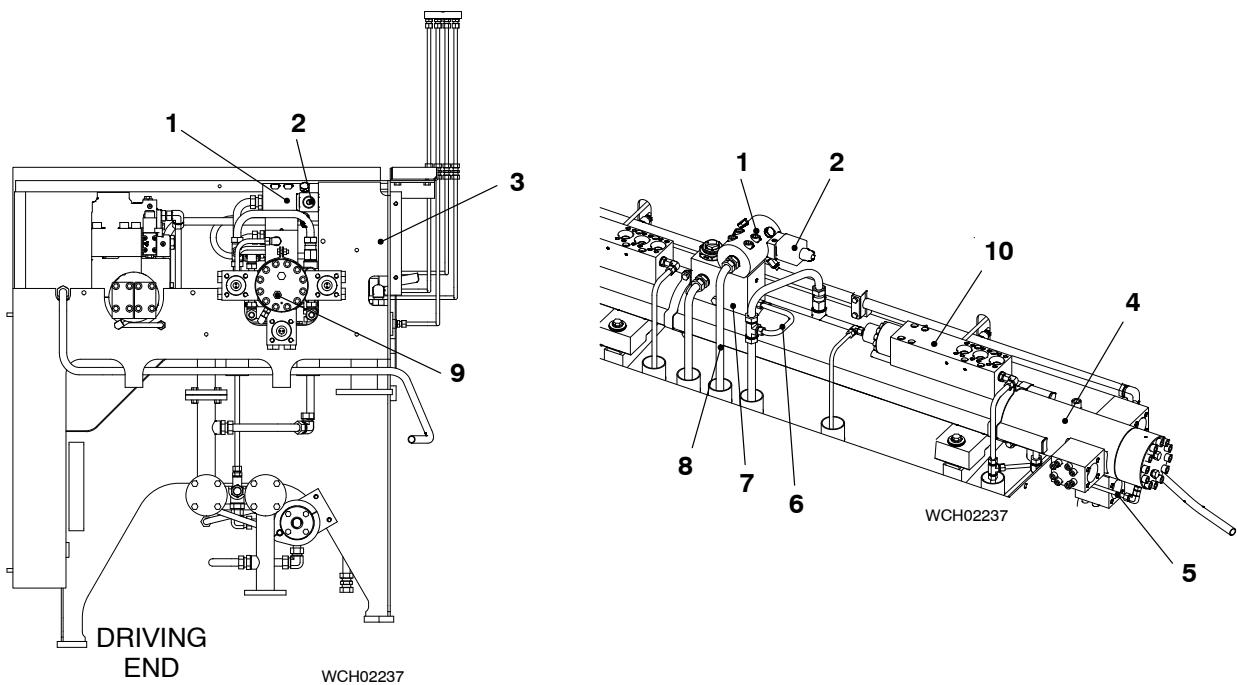

Fig. 2: Location of Pressure Control Valve
- 2) Replace the defective PCV (1, Fig. 2) as soon as possible.
- 3) Make sure that there is no pressure in the fuel rail (4) as follows:
- d) On the fuel rail (4), loosen the drain screw (9) a maximum of two turns.